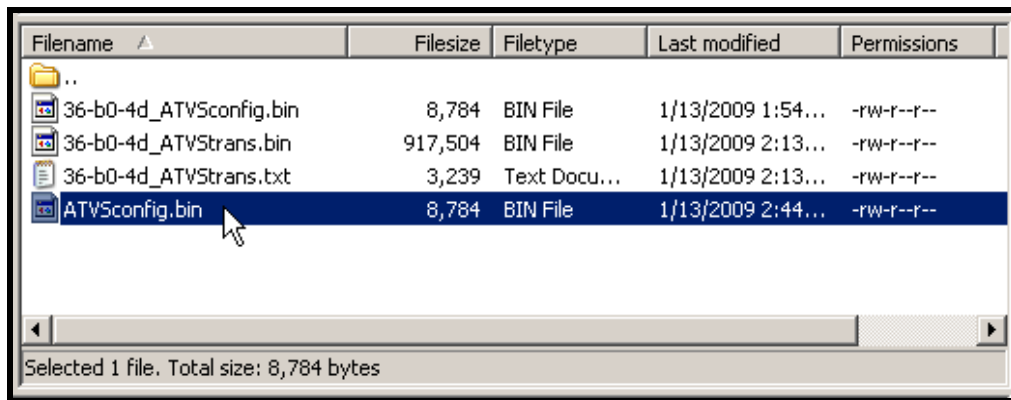

Figure 4-25: FTP Server Configuration & Transaction Files
At the same time a Backup transaction text file is created, a Backup transaction binary file is also created. This binary file can be used by the Restore utility to restore the transaction database in a clock. This should only be necessary if the clock’s flash memory was reset. The following figure shows a Backup configuration and transaction file for the same clock on an FTP Server. In the illustration, the first file labeled “36-b0-4d_ATVSConfig.bin” is the configuration file for that clock. The highlighted file (see *Figure 4-25*) called “ATVSConfig.bin” is the shared configuration file for multiple clocks. This file can be used by the included TS-3000i Utility on the CD to copy this configuration to multiple clocks.
- Step 3.** Select the radio button for “**Are you are restoring this clock based on shared settings or is it specific to this clock only?** The choices are: **Specific**, or **Shared**. Select Specific if you are restoring only the clock you are connected to. Select Shared if you are using the shared settings file (possibly a different clock) to transfer to this clock. See Figure 4-25 for an example of a shared configuration file. The shared file does NOT have the MAC address. It is important to note, that when restoring a clock all the information will be changed except for the clock name. The current name in the clock will remain unchanged so that clock retains this unique identifier.